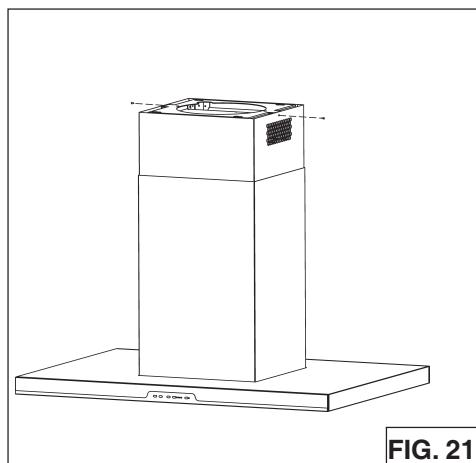

FIG. 21
1. Lower the **lower flue** in place (Fig.21)